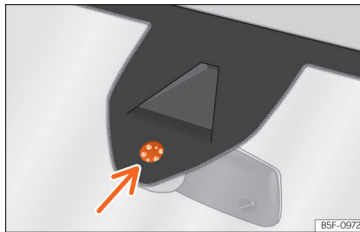

Fig. 103 Rain sensor sensitive surface
Possible causes of faults and mistaken readings on the sensitive surface »» » Fig. 103 of the rain sensor include:
- Clean the sensitive surface of the rain sensor regularly and check the blades for damage »» Fig. 103 (arrow).